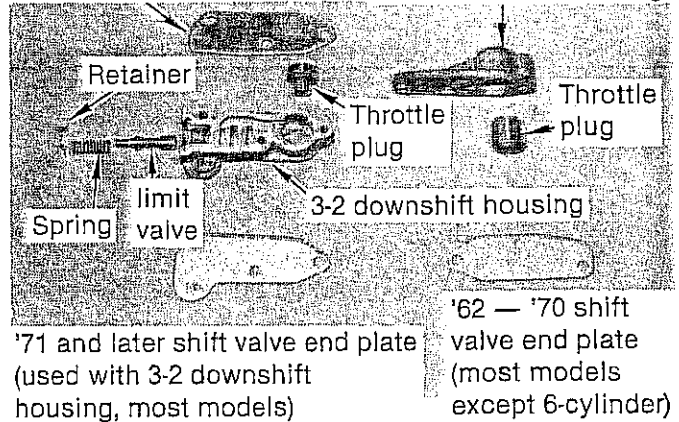

FIGURE 33
**STEP 5.** Shift Valve End Plate: Remove three screws that hold the shift valve end plate in place. There are three possible combinations you may encounter. (See Fig. 33)
1. '62-'70 (727): A flat plate held in place with three short Phillips screws. Remove the plate to expose the 1-2 shift valve and spring and the 2-3 shift valve and spring. Remove each valve and spring and set them aside.
Install end plate, or throttle plug housing and throttle plug, or 3-2 downshift assembly and end plate, depending on your model valve body (See Fig. 33) and hold in place with your thumb. Thumb pressure is all that should be necessary to hold end plate assembly in place and flush with casting. If plates do not fit flat determine the problem and repair it now. Install proper retaining screws and tighten finger tight.